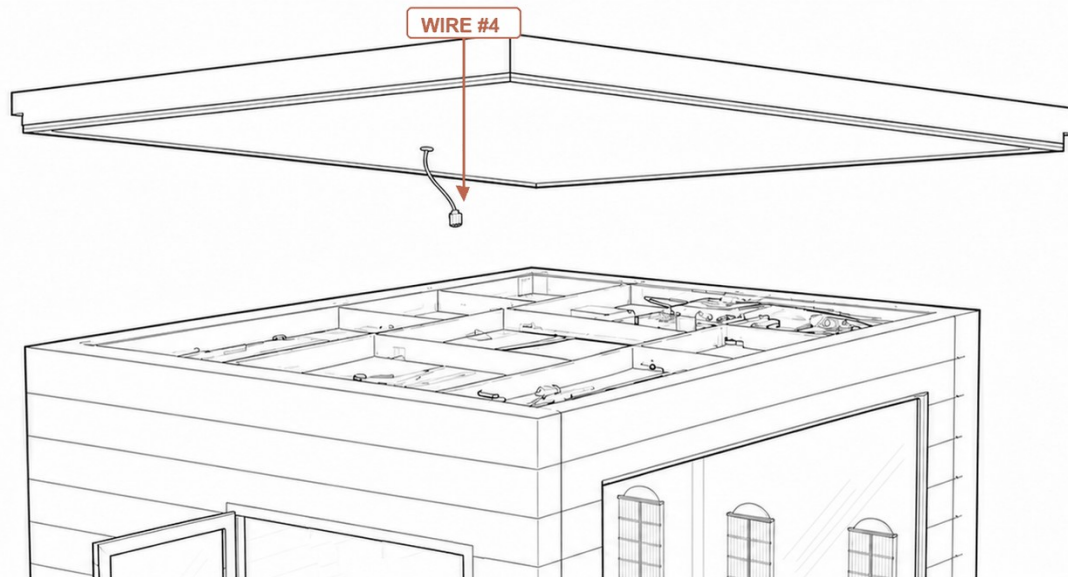

Figure 22. Roof panel lowered into place with wire #4 connected at the eave.
- Route the main power cord out through the notch at the Back Wall (B) now, before the roof goes on, so it hangs clear and cannot be pinched under the roof.
- Before lifting the roof, orient it so its wire #4 aligns with the ceiling panel wire #4 and its power cord opening faces the Back Wall (B).
- With two people, carefully lift and slide the roof panel onto the top of the sauna (Figure 22).